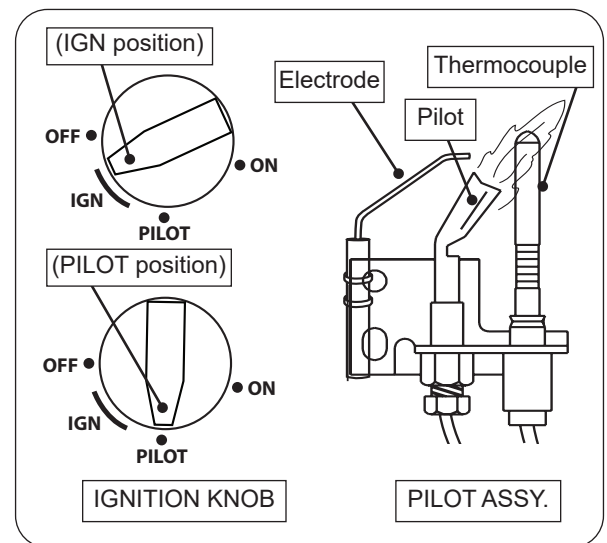

Fig. 41-1 Pilot lighting
3. Locate the pilot assembly on the side or rear of the burner pan (see Fig. 41-1).
5. While still holding the knob in, turn the knob counterclockwise to **PILOT** until you hear a click (piezo igniter will activate and light pilot). Continue to hold the knob in for about one (1) minute after the pilot is lit. Release the knob and it will pop back out. The pilot will remain lit. See Fig. 41-1. If it goes out, repeat steps 2-5.